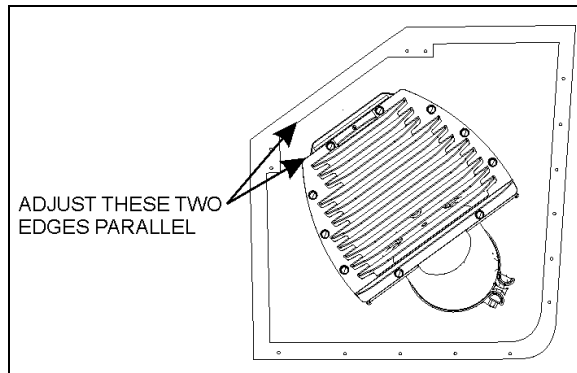

FIGURE 10: DIFFUSER POSITION ADJUSTMENT 04015\_1
- For proper angular position, make sure that the two edges shown on figure 10 are parallel with each other.